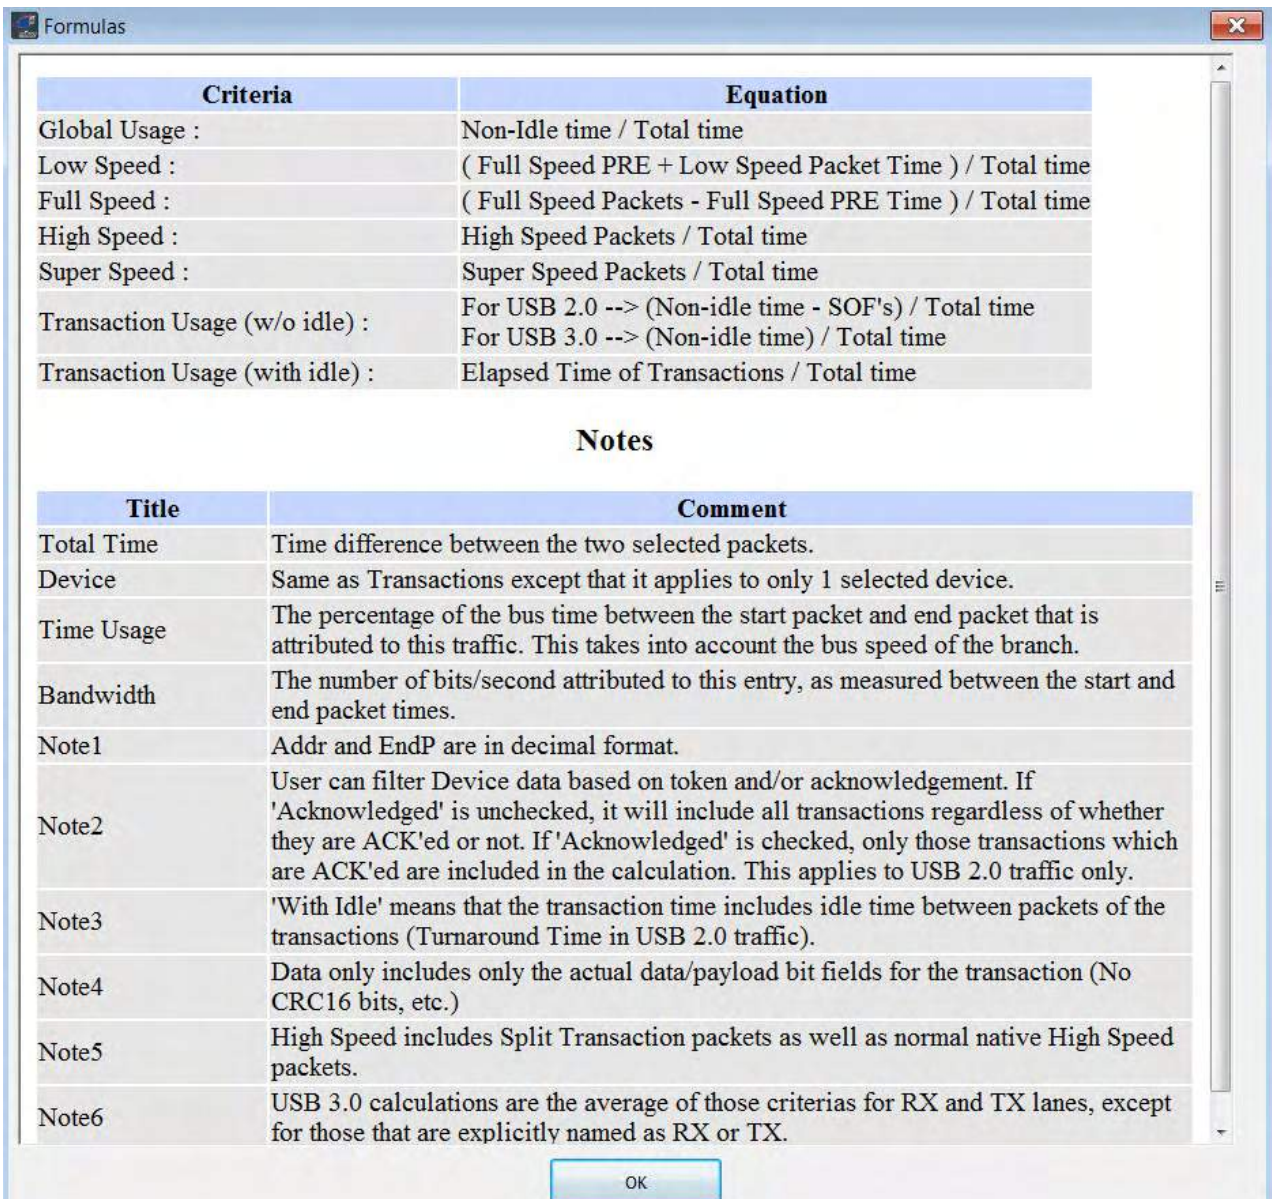

Figure 10.9: Formulas Window
4. Click the **Show Formulas** button to display the Formulas window (see Figure 10.9 on page 426, with the formulas used).